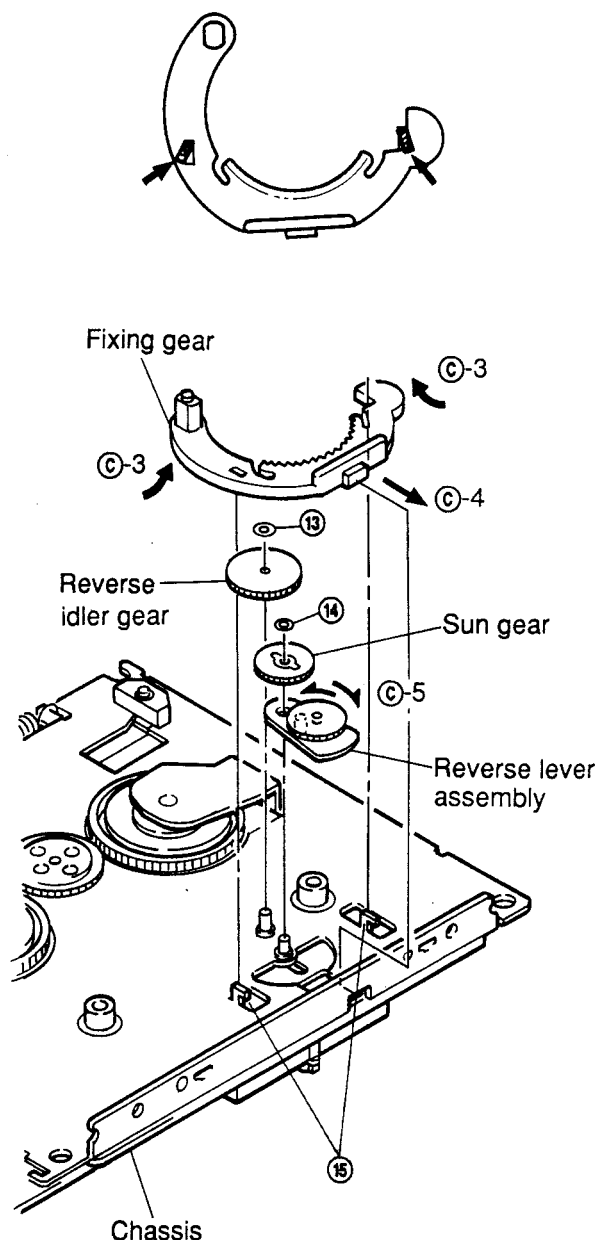

Figure 13
- (1) Remove M1.2 lock washer ⑩, pull it up from the stud of the chassis and remove the gear as shown in Figure 13.
- (2) Remount following the removal steps in the reverse order.
- (1) Remove M1.2 lock washer ⑭, pull it up from the stud of the chassis and remove the gear as shown in Figure 13.
- (2) Mount it, following the removal steps in the reverse order.
- (1) Adjust the two mounting claws for the fix gear on the chassis ⑮ and remove the section ㉔-3 of the gear by pulling it up in the direction of the arrow shown in Figure 13.
- (2) Insert the section ㉔-4 of the new gear into the chassis, and mount it following the removal steps in the reverse order as shown in Figure 13.
- (1) Remove both the fixing gear and the sun gear and remove the reverse lever assembly as shown in Figure 13.